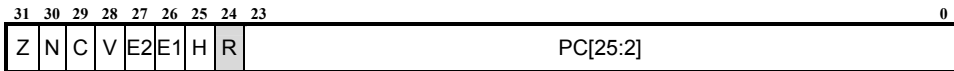

Figure 14 Status Register
The status register (STATUS), shown in Figure 14, contains the condition codes: zero (Z), negative (N), carry (C) and overflow (V); the interrupt mask bits (E[2:1]); the halt bit (H); and the program counter (PC[25:2]). When STATUS is read with a LR instruction, it will return the address of the instruction following the LR and the current condition flags. STATUS cannot be written with SR instruction. The FLAG and Jcc instructions are used to affect the status register.